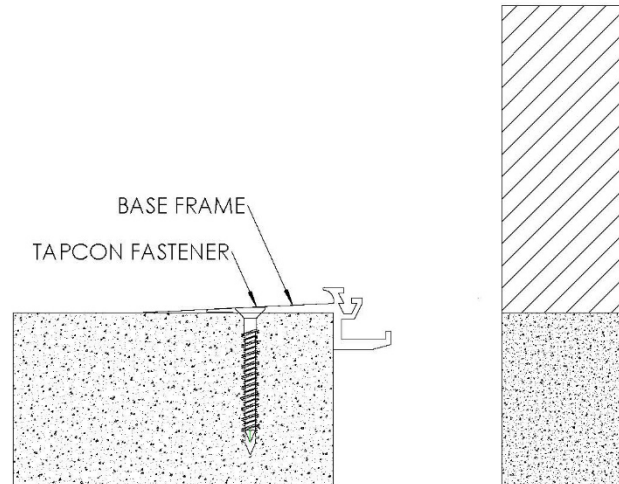

FIGURE 1
1. Position base member frame in expansion joint per shop drawings. Using the frame as a template, mark and drill 5/32" holes in the concrete. Install base member frame with supplied Tapcon fasteners, making sure not to over tighten. **See Figure 1**